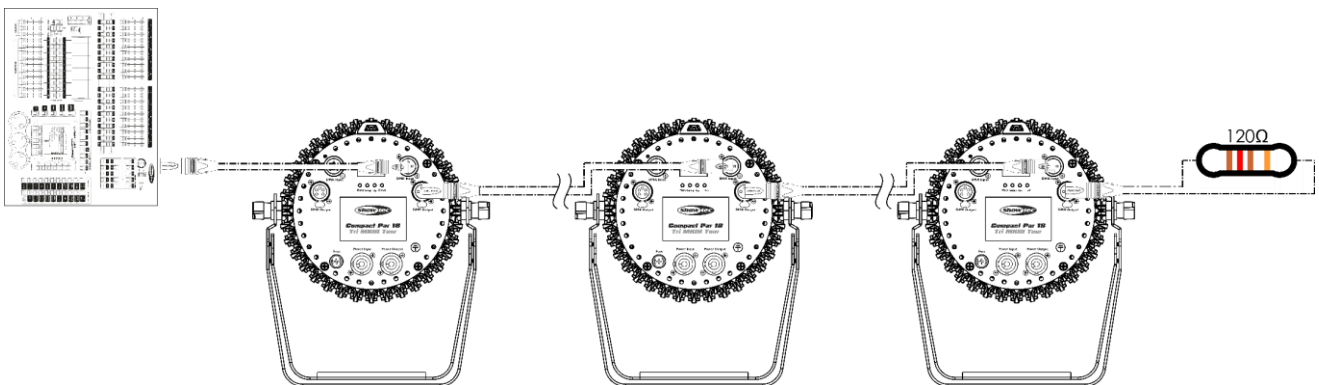

Fig. 04
- 05) Link the units as shown in fig. 04. Connect a DMX signal cable from the first unit's DMX "out" socket to the second unit's "in" socket. Repeat this process to link the second and third units.